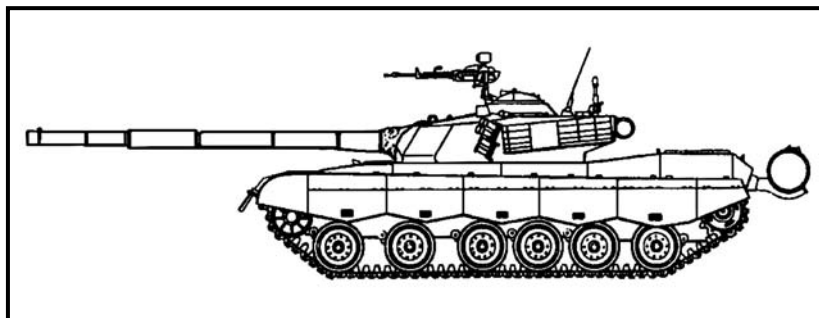

Figure H-5. Chinese main battle tank, Type 85-IIM.
(5) *Chinese Main Battle Tank, Type 85-IIM* (Figure H-5).